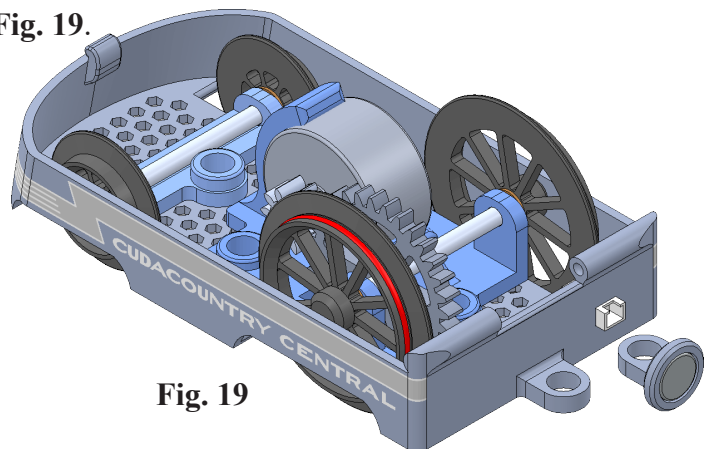

Fig. 19
Step 7. Click to place Plug as positioned in **Fig. 19**.